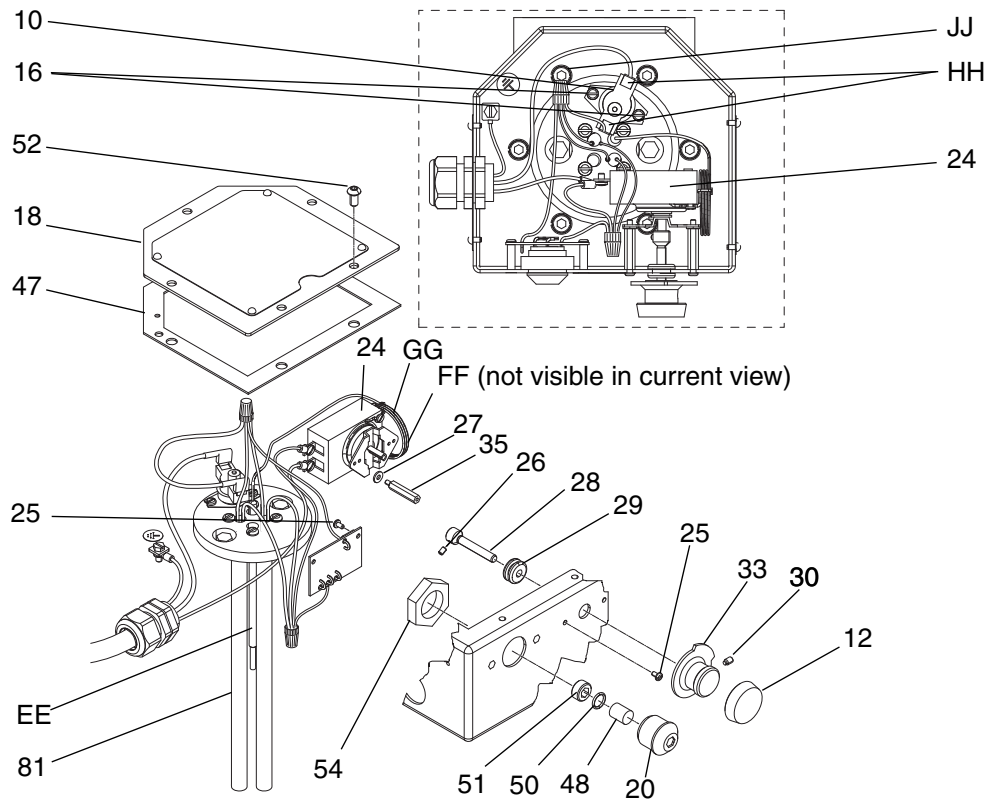
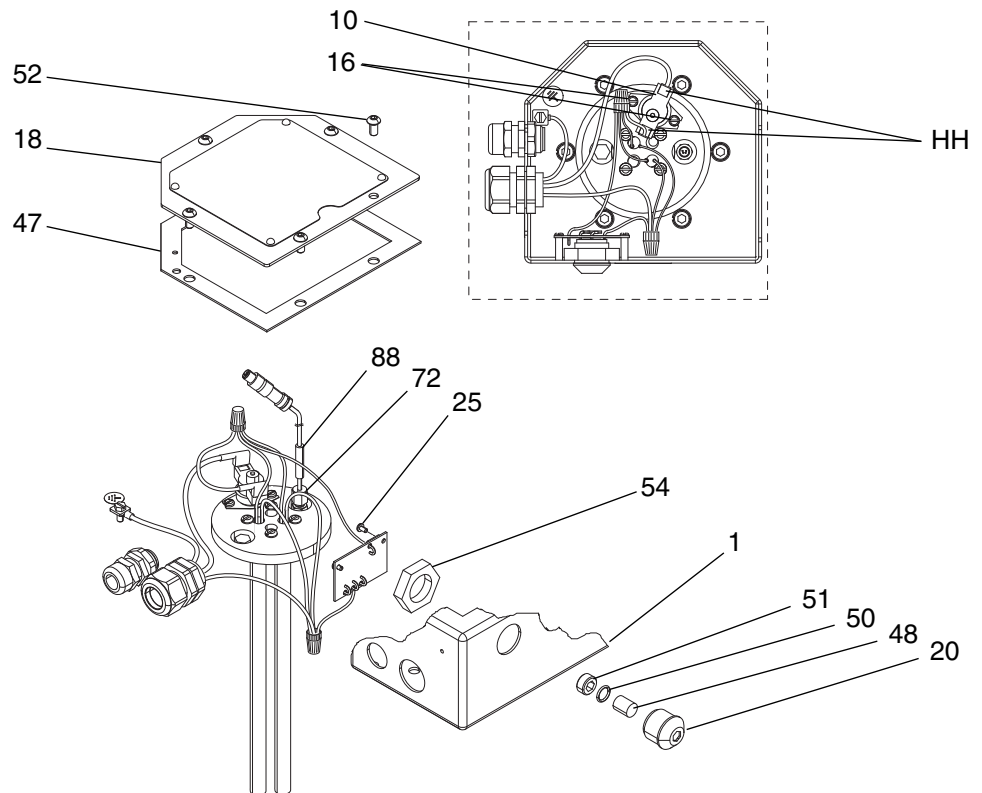

FIG. 10: Thermostat Repair - 24P016
FIG. 11: Sensor Repair - 262853
(Model 24P016 and 24W248 only, see FIG. 10 on page 21)
- Refer to FIG. 10 or FIG. 11 on page 21 for wiring connections.
- *Model 262853 and 24W612 Only:* Make sure the core (68) is aligned with the plug (82) pin in housing (67).
- Make sure gasket (47) is installed and aligned with electrical housing screw holes.
- Secure cover (18) with screws (52). Torque screws to 85-90 in-lb (10 N•m).
4. Perform **Heater Core Removal and Fluid Passage Unclogging** procedure on page 23. This includes removing the inlet housing (65).
5. With the inlet housing removed, remove 5 screws (52) and cover (18).
6. Disconnect wires from heater cartridges (81).
7. Remove pipe plug (95) and springs (31) from bottom of core (68).
9. Wire new cartridges per FIG. 10 or FIG. 11, page 19.